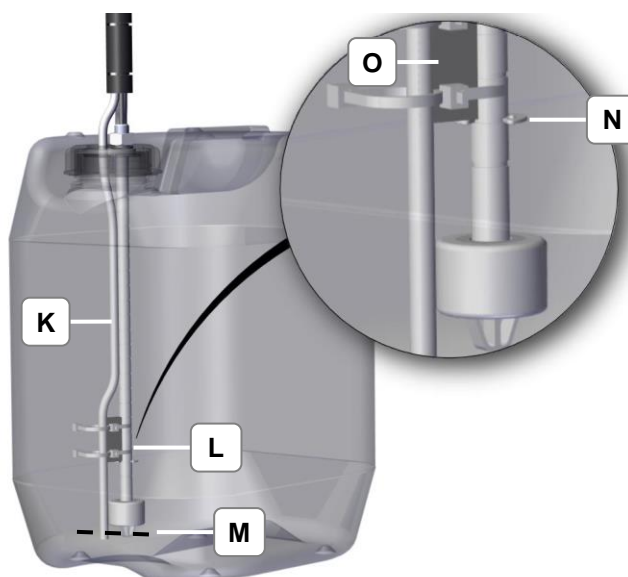

Figure 4.5.5: Water hose and cable
<p>Pump Operation</p> <ul style="list-style-type: none"> <li>• The trouble-free functioning of the pump operation is guaranteed when water hose (K) and cable (L) are set to the same level (M) (Figure 4.5.5).</li> </ul>